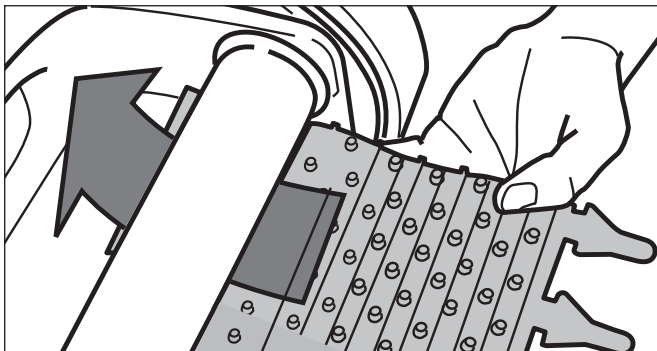

Figure 28. Position the New Brush on Roller
- Position the new brush underneath the roller with the spikes facing downwards (Figure 28).